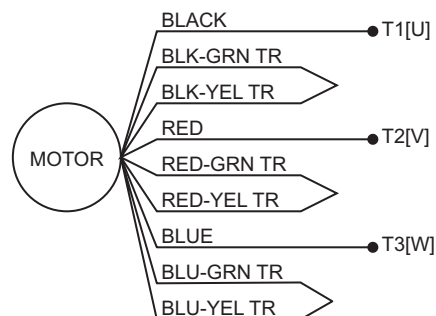

FIG. 8 Electrical Connections for 3 Phase Pump
1. Connect the conduit to the power source enclosure (B) with a conduit fitting.
3. Connect wires (user supplied) rated per local electrical code. See FIG. 8 for wiring diagram, and **Technical Specifications**, on page 59, for current ratings.